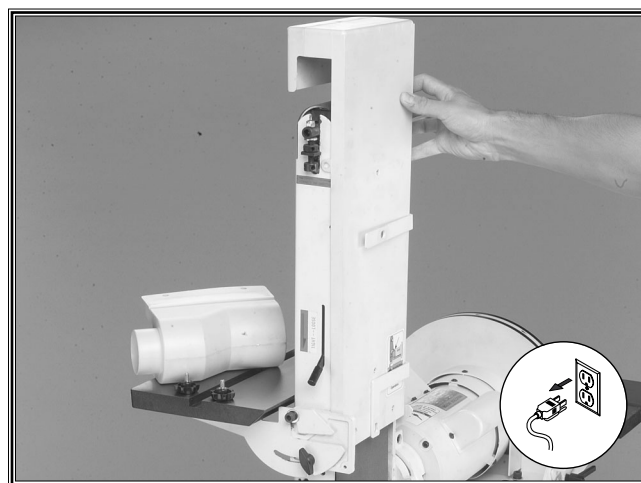

Figure 23. Removing belt guard.
2. Remove all the cover lock knobs from the back of the belt guard and slide the belt guard up and off the sanding belt as shown in **Figure 23**.